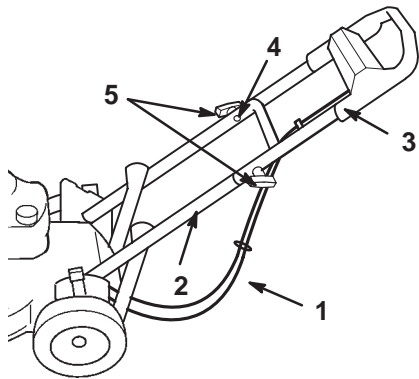

Figure 3
- Slide the upper handle section ends over the lower handle section so that the sections nest together (Fig. 3).
- Make sure to route the cables below and behind the lower handle section as illustrated in Figure 3.
- Secure the upper handle section to the lower handle section using the two contoured handle bolts and two knobs (Fig. 3).